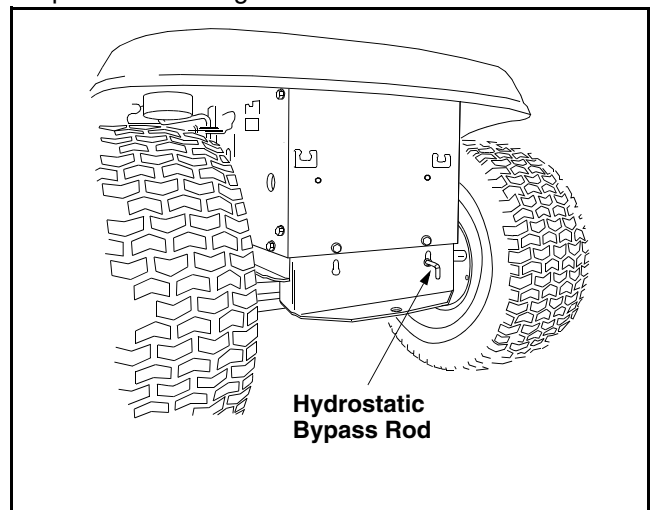

Figure 10
- Locate the hydrostatic bypass rod in the rear of the tractor. See Figure 10.